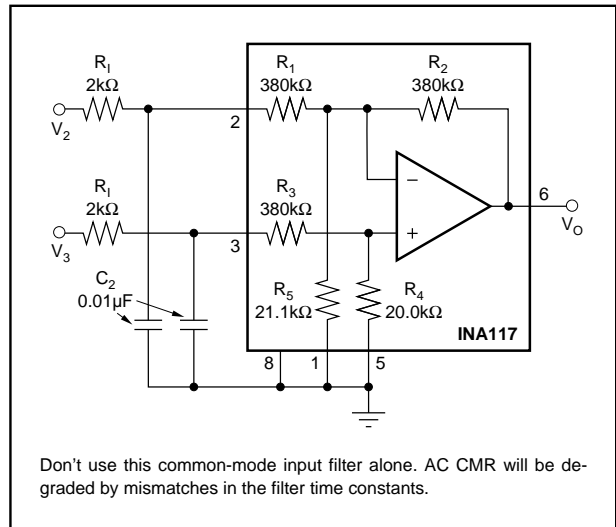
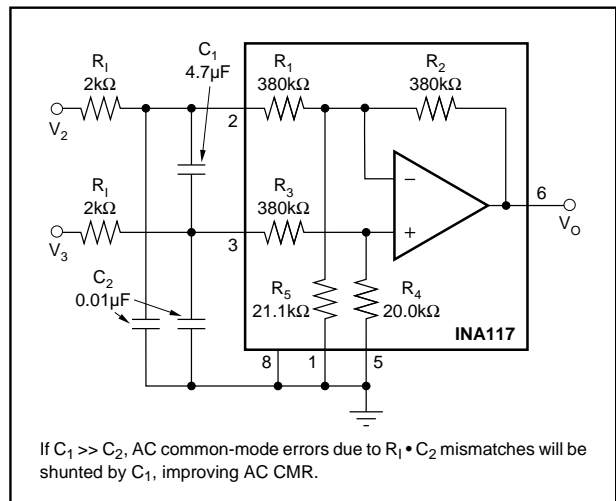
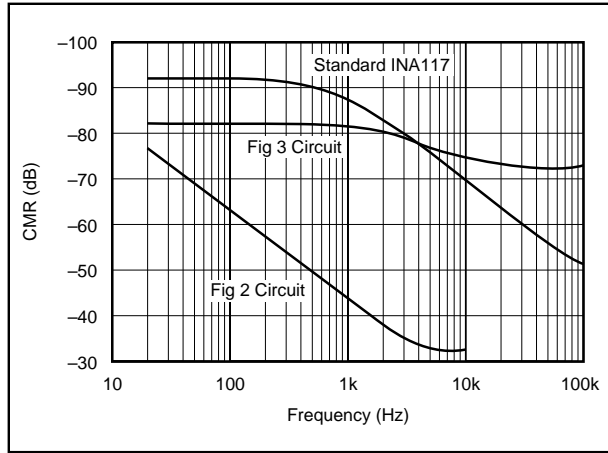

FIGURE 2. INA117 with Common-Mode Input Filter.
FIGURE 3. INA117 with a Combination Differential and Common-Mode Input Filter.
FIGURE 4. CMR vs Frequency Plots for Figure 2 and 3 Circuits with Standard INA117 for Comparison.
Don't be tempted to use common-mode input filtering alone (Figure 2) unless you are prepared to carefully match components. Mismatches between the $R_1 \cdot C_2$ time constants reduce AC CMR. The mismatches result in a differential input signal in response to AC common-mode inputs. Even if you successfully match the components for good AC CMR at room temperature, maintaining the match over temperature can be a problem.
If you want common-mode input filtering, use it in conjunction with differential input filtering as shown in Figure 3. If
Figure 4 shows actual CMR vs Frequency performance plots for the Figure 2 and Figure 3 circuits. Standard INA117 performance is shown for comparison. The standard INA117 has about 60dB CMR at 30kHz. Mismatches of 5% in $R \cdot C$ time constants (5% C_2 mismatch) cause the Figure 2 circuit CMR to drop below 60dB at less than 200Hz. Adding a
4.7 μ F differential input filter capacitor shunts out common-mode filter errors producing greater than 70dB CMR to 100kHz as shown in the plot of Figure 3's performance.
Notice that the DC CMR of the Figure 3 circuit is reduced from ≈ 92 dB to ≈ 82 dB. The CMR reduction is due to mismatches from input filter resistors, R_I .